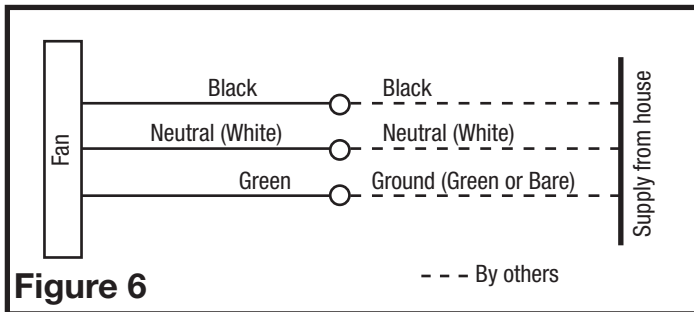

Figure 6
- Connect the White wire from the house to the White wire from the fan's receptacle. Connect the Black wire from the wall switch to the Black wire from the fan's receptacle. Connect the ground wire from the house to the Green wire from the fan's receptacle (Figure 6). Use approved methods for all connections.